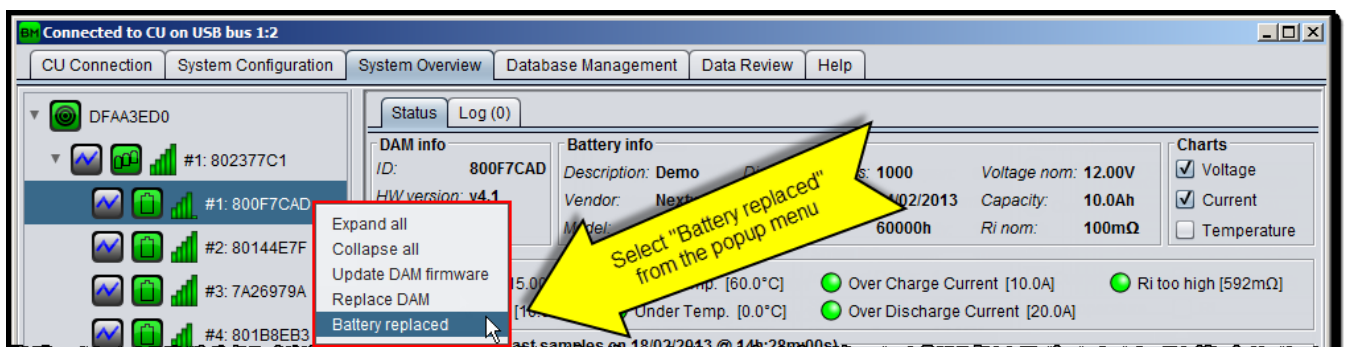

Figure 44: Replace battery
1. Right click on the battery icon as shown on Figure 44.